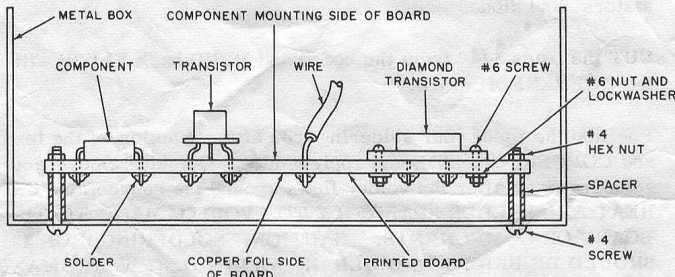

Figure 3. Component Mounting, Side View
1. Install components **FLUSH** with the **COMPONENT** side of the board (see figure 3) and leads protruding from the **COPPERFOIL** side.
Figure 3 shows component mounting and mounting of the completed printed circuit board to the optional case using the mounting hardware supplied.
The completed kit can be mounted in a compact metal cabinet as shown in figure 3. Despite its small size, it is both rugged and dependable.